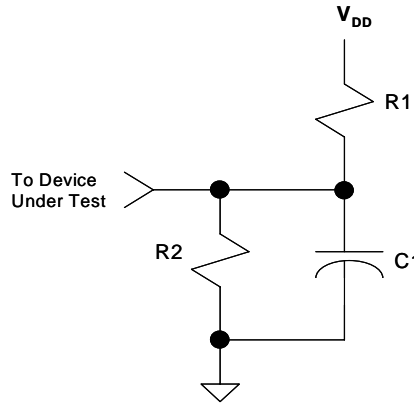

Figure 5: AC Test Load
6. With load specified in Figure 5 on page 27, Test Load A from Table 7.
7. With load specified in Figure 5 on page 27, Test Load B from Table 7.